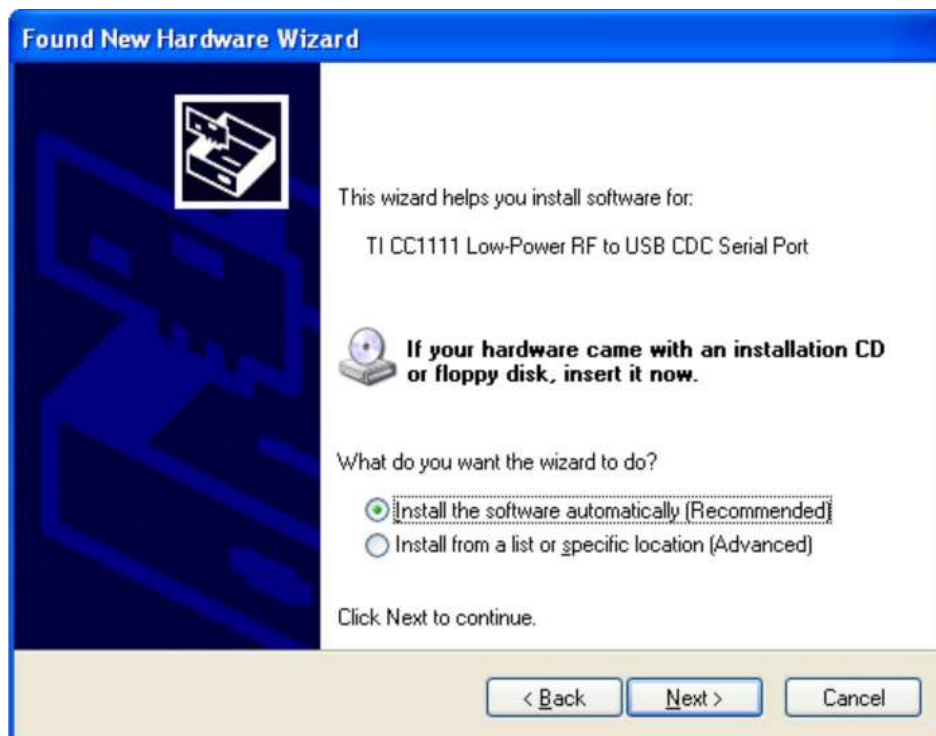

Figure B-6. Automatic Driver installation
6. Select *Install the software automatically* in next dialog (see Figure B-6).